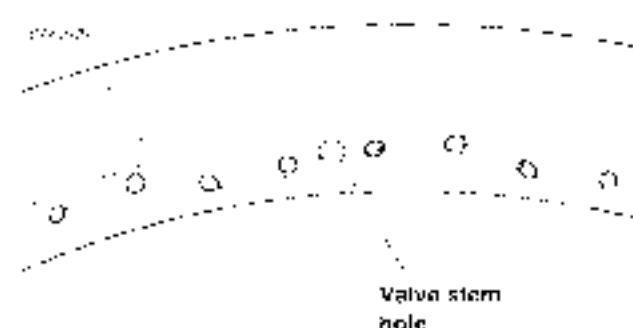

Figure 2-31. Valve Stem Location
- See Figure 2-31. The valve stem hole is centered at the rim, you do not have to worry about choosing the correct relationship between the rim and the hub.